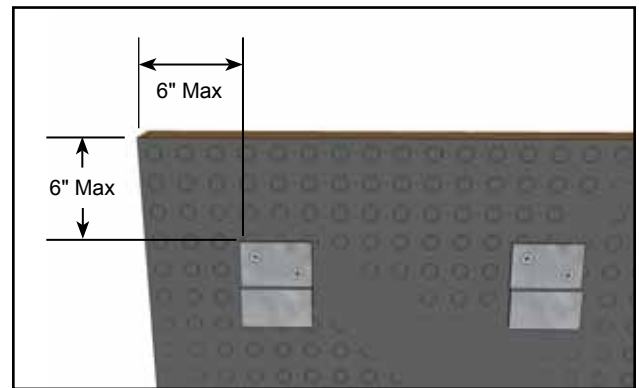

Figure 1
1. Screw in supplied z-clips to the back of the Sereno board. (Figure 1)